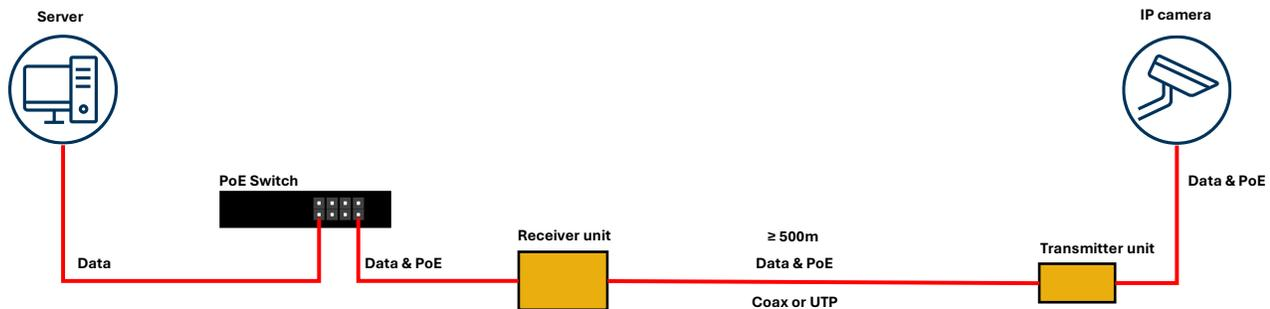
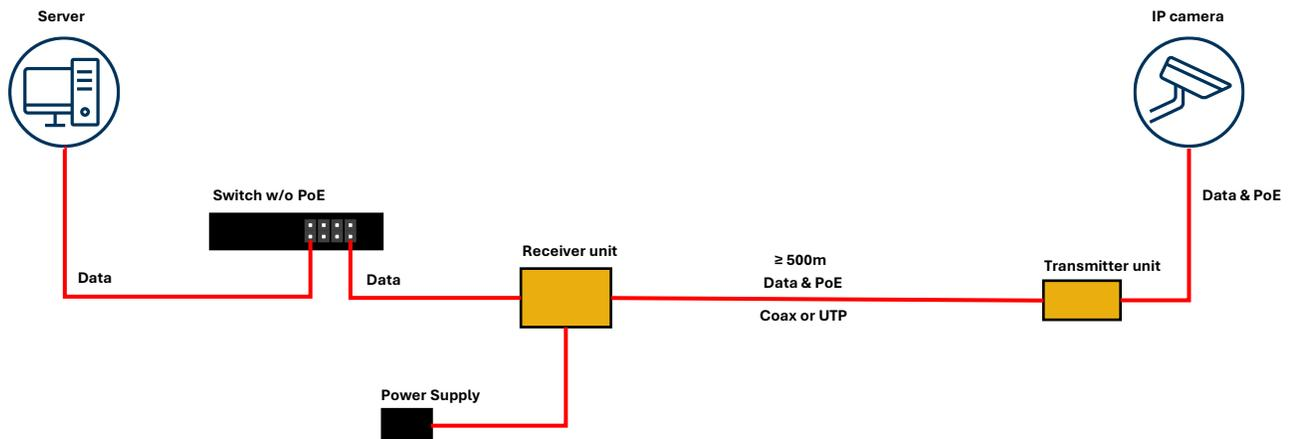

Figure 2: Method PoE
Figure 3: Method external power supply
- Make sure that both units have power (see Figure 2 and Figure 3).
| Power Input, receiver side (See Figure 2 and Figure 3) | Method PoE, IEEE 802.3 af/at/bt, RJ45 Method Power Supply, 48-56VDC, DC-connector jack type 5.5 / 2.1 mm |